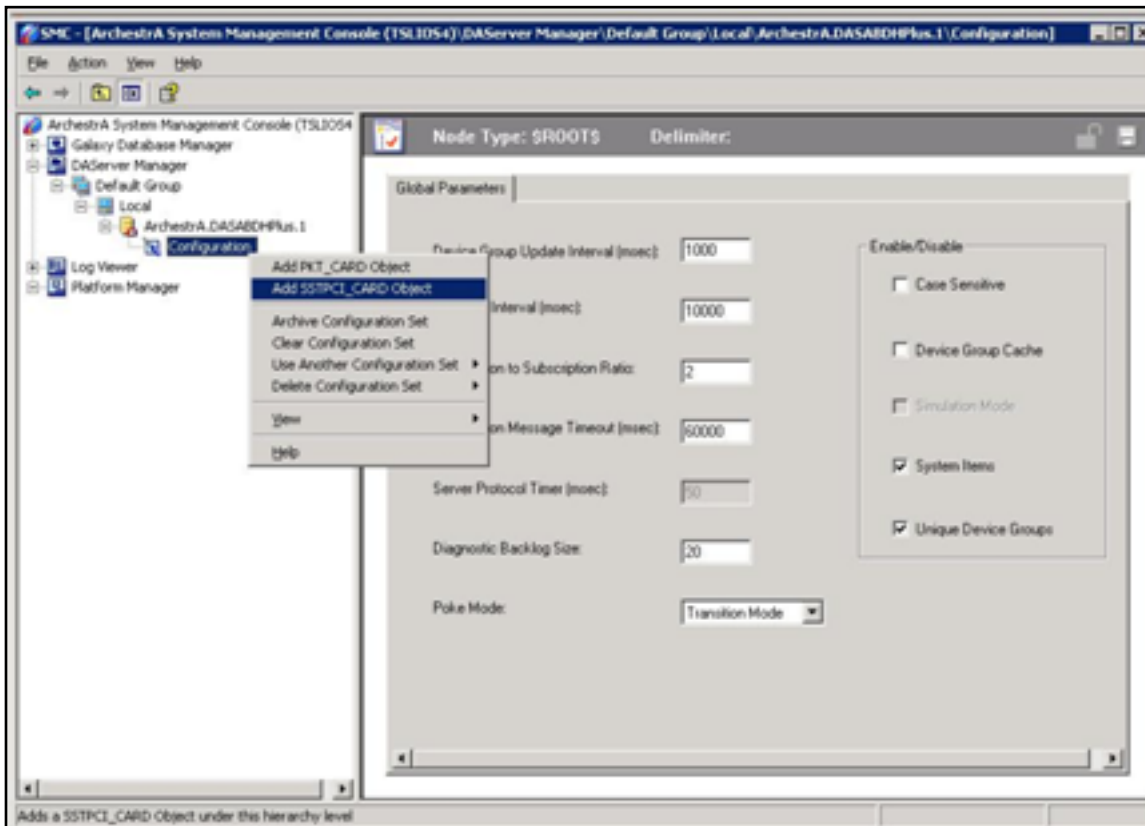

Figure 14: Add SSTPCI_CARD Object
9. Select **Add SSTPCI_CARD Object** from the sub-menu (Figure 14 below):